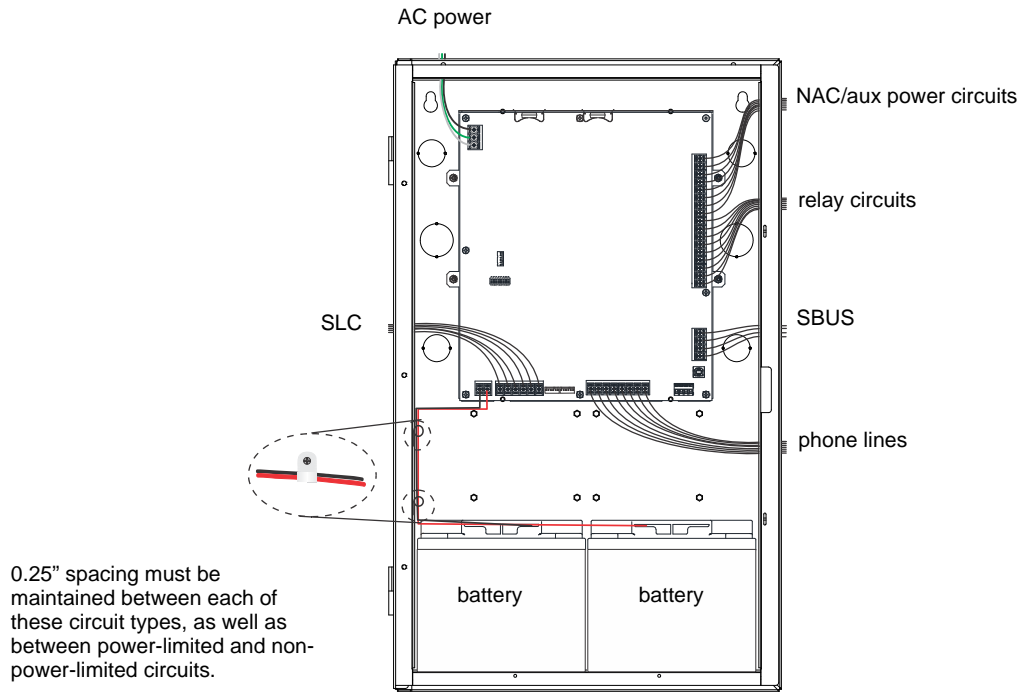

Figure 4.3 Wire Routing Example for IFP-300
- Route the wiring around the inside perimeter of the cabinet. It should not cross the circuit board where it could induce noise into the sensitive microelectronics or pick up unwanted RF noise from the high speed circuits. See Figure 4.3 for an example.
NOTE: Figure 4.3 is an example of how the wire connections can be routed. However, any other cabinet knock-outs (on either the main control panel or the RBB cabinet), that are not previously being used may be utilized to connect conduit between the two cabinets.